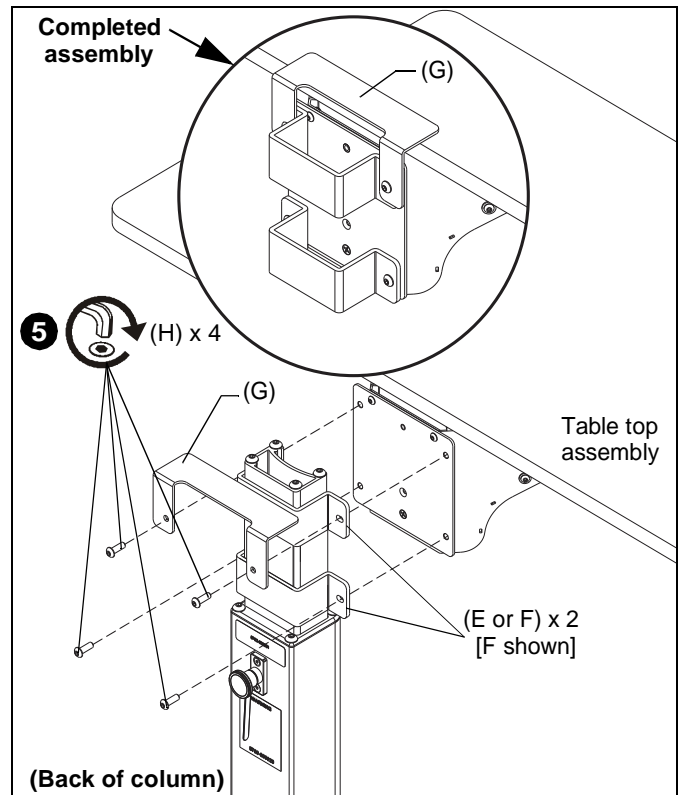

Figure 4
5. Fasten the table top assembly and shelf bracket (G) to the cart/stand using four 1/4-20 x 3/4" button head cap screws (H) through two array clamps-inner (F) or two array clamps-outer (E). (See Figure 4)